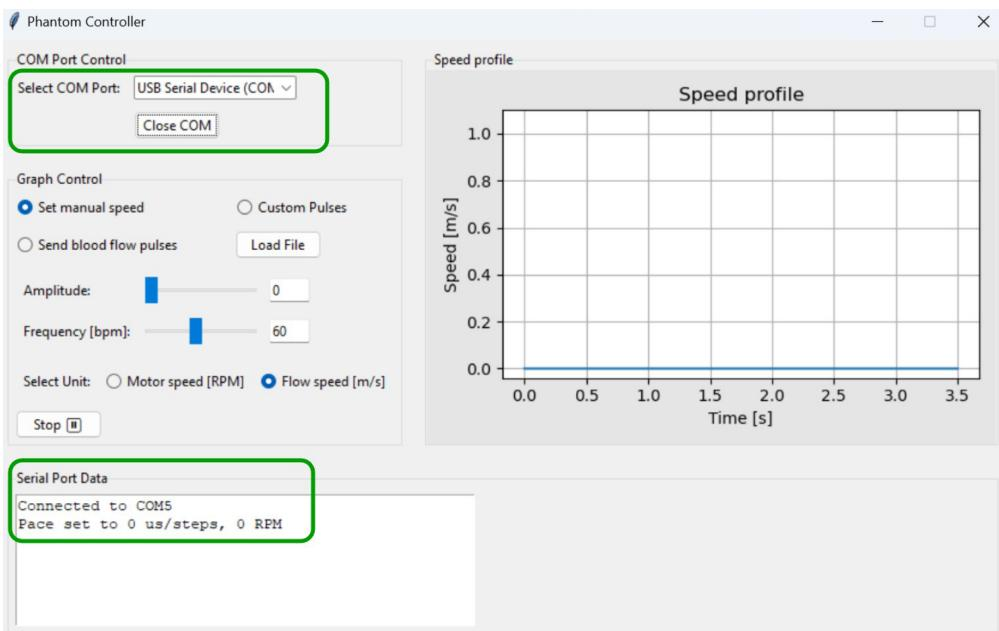

Figure 3.3: GUI Serial Port Data window shows messages from the control board and confirms a successful connection.
2. Click on the **Select COM Port** dropdown menu to select the control board's COM port, then press **Open COM**. You should see a message in the *Serial Port Data* window indicating a successful connection. Refer to Fig. 3.3 for reference.